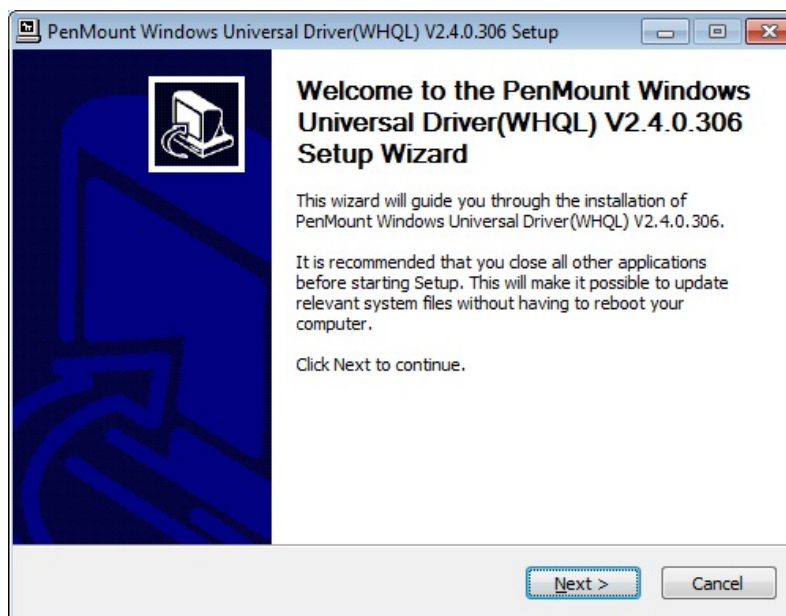

Figure 6-30: Welcome Screen
Step 4: The Welcome screen in **Figure 6-30** appears. Click **Next** to continue.